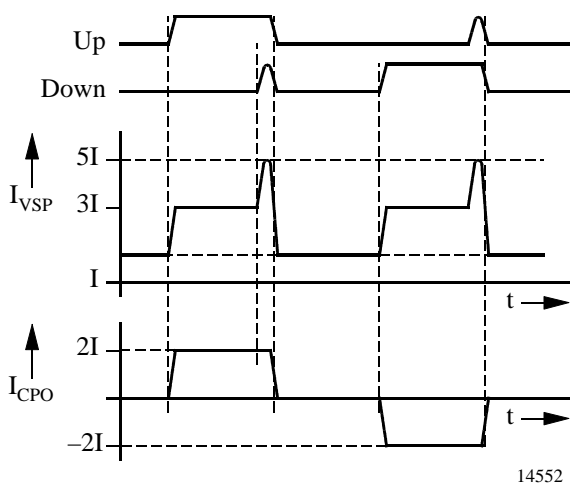
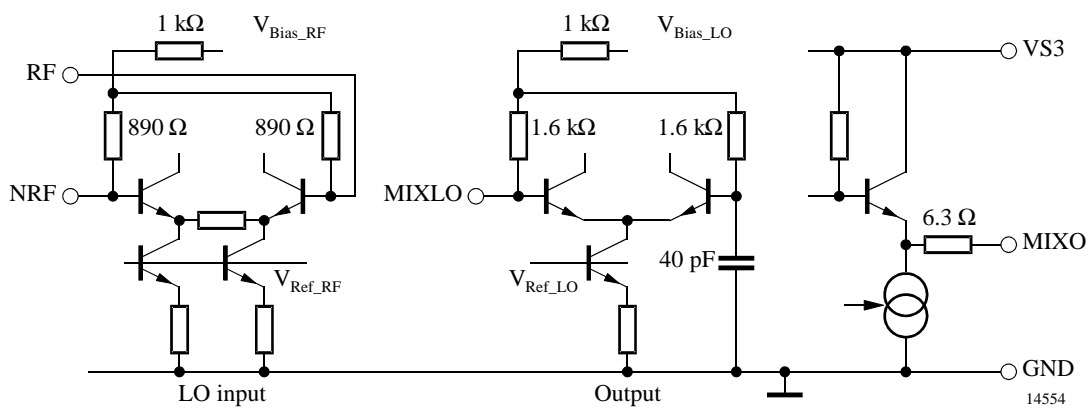

Figure 3. Supply current of the charge pump = $f(t)$
Figure 6. Mixer
1) Mean value measured with $F_{ND} = 151$ MHz, $F_{RD} = 150$ MHz, current vs. time, see page 6, figure 3.
Due to the pulsed operation of the charge pump, the current into the charge-pump supply pin VSP is not constant. Depending on I (see figure 6) and the phase difference at the phase detector inputs, the current I_{VSP} over time varies. Basically, the total current is the sum of the quiescent current, the charge-/discharge current, and – after each phase comparison cycle – a current spike (see figure 3).